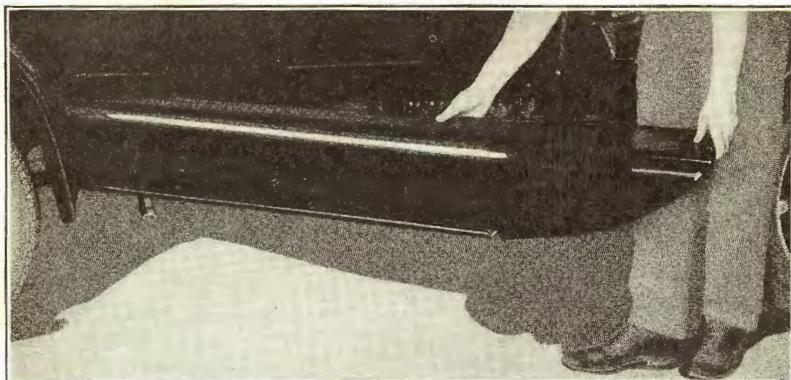

Fig. 544
- 1182 By sliding the dust shield back until it clears the front fender, the shield can be withdrawn as shown in Fig. 544.
- 1183 **Installing.** To install the new dust shield, insert end of shield between rear fender and frame (see Fig. 544).